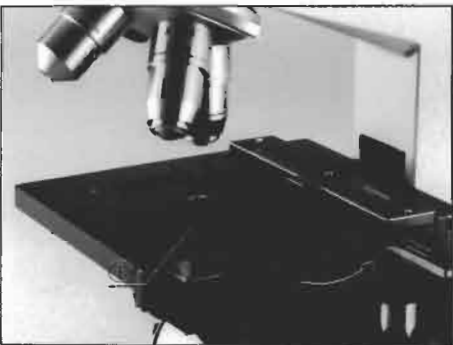

Fig. 8
- 1) Open the spring-loaded specimen finger ①, and slide the specimen slide into the holder, with the cover glass upward. Push the slide all the way against the holder and release the finger ① slowly. (Fig. 8)